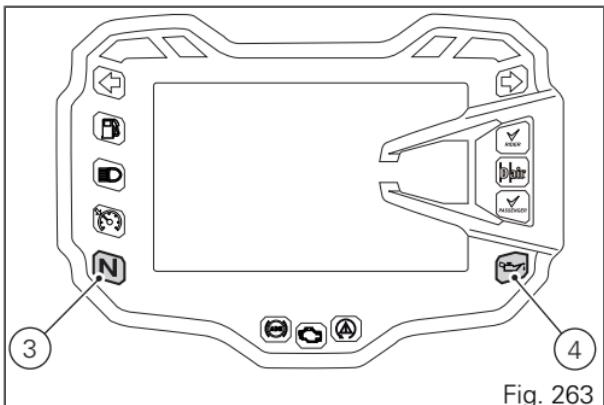

Fig. 263
The red oil pressure warning light (4, Fig. 263) should go out a few seconds after the engine has started. The engine will shut off by turning the red button (1) on the handlebar to RUN OFF. To turn on the "Hands free" system and all electronic onboard systems, refer to page 296 "Hands Free System".